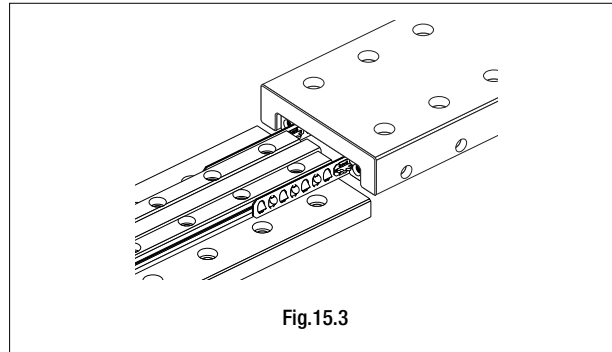

Fig.15.3
- Engage the end of the rack gear of the way at table side with the pinion gear while adjusting the longitudinal and traverse positions of the way at table-side and pushing the retainer to secure. Do not give any excessive force to the cage. (See Fig.15.3)